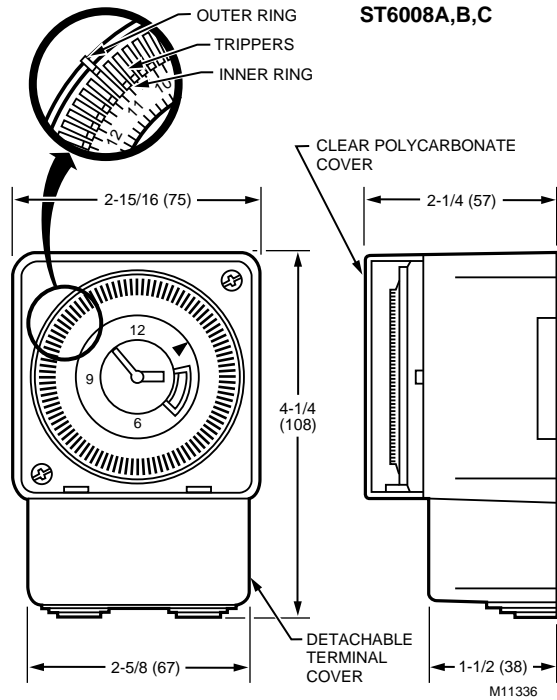

Fig. 1. ST6008A,B,C dimensions in in. (mm).
See Fig. 1.
- ❶ Push the desired number of trippers to the outer ring position for the entire period the load is on. This places the switch in the on position.
- ❷ Push the desired number of trippers to the inner ring position to turn off the load. This places the switch in the off position. See Fig. 1.